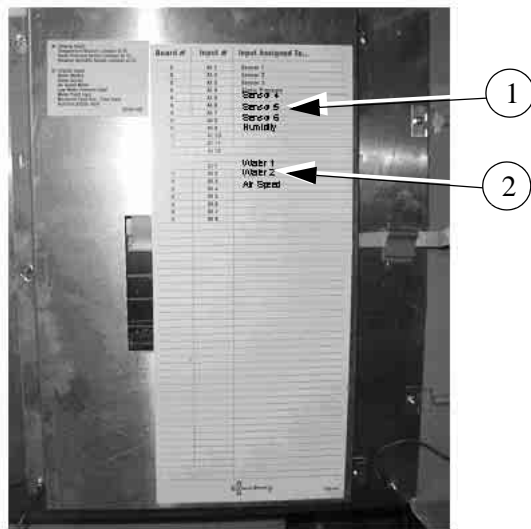

Figure 4. Input Assignments
- Step 4:** Reconnect all the wires that were removed from the CT1 main box. Fill in the form on the cover plate with the location of the Analog and Digital ins (**See figures 4&5**). Note: No high voltage wires can be ran through the main box.